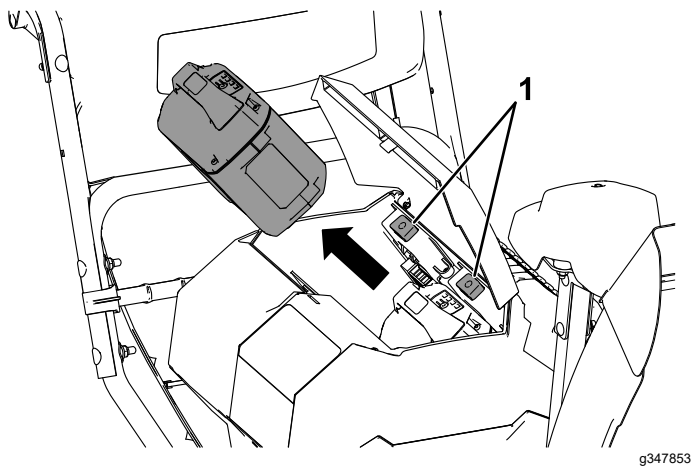

Figure 26
2. Press the battery pack-latch to release the battery pack and remove the battery pack (Figure 26).